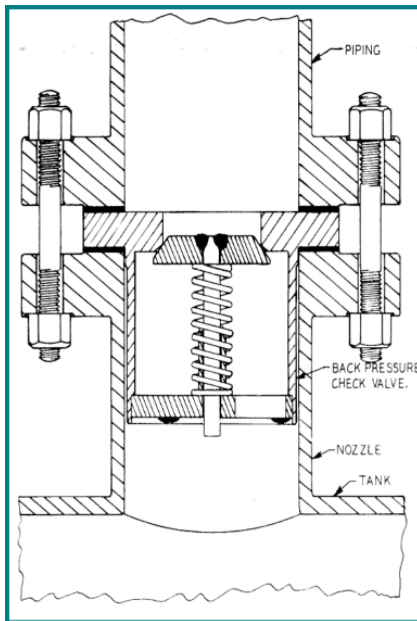

Figure 1: Installation Schematic
5. Insert the valve body inside the pipe or tank nozzle until valve flange comes in contact with pipe or tank flange. Make sure gasket is installed and properly positioned (see Figure 1).